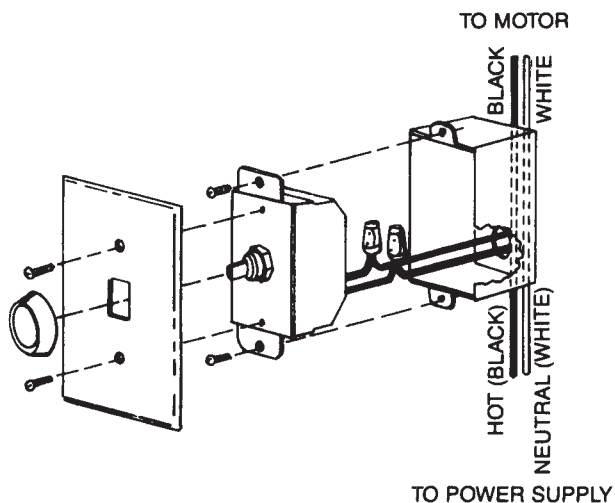

Figure 1 - Mounting Illustration
3. Run conduit between the wall box, power source, and the fan units being controlled. Leave approximately six inches of wire in the box for connections (See Figure 1).